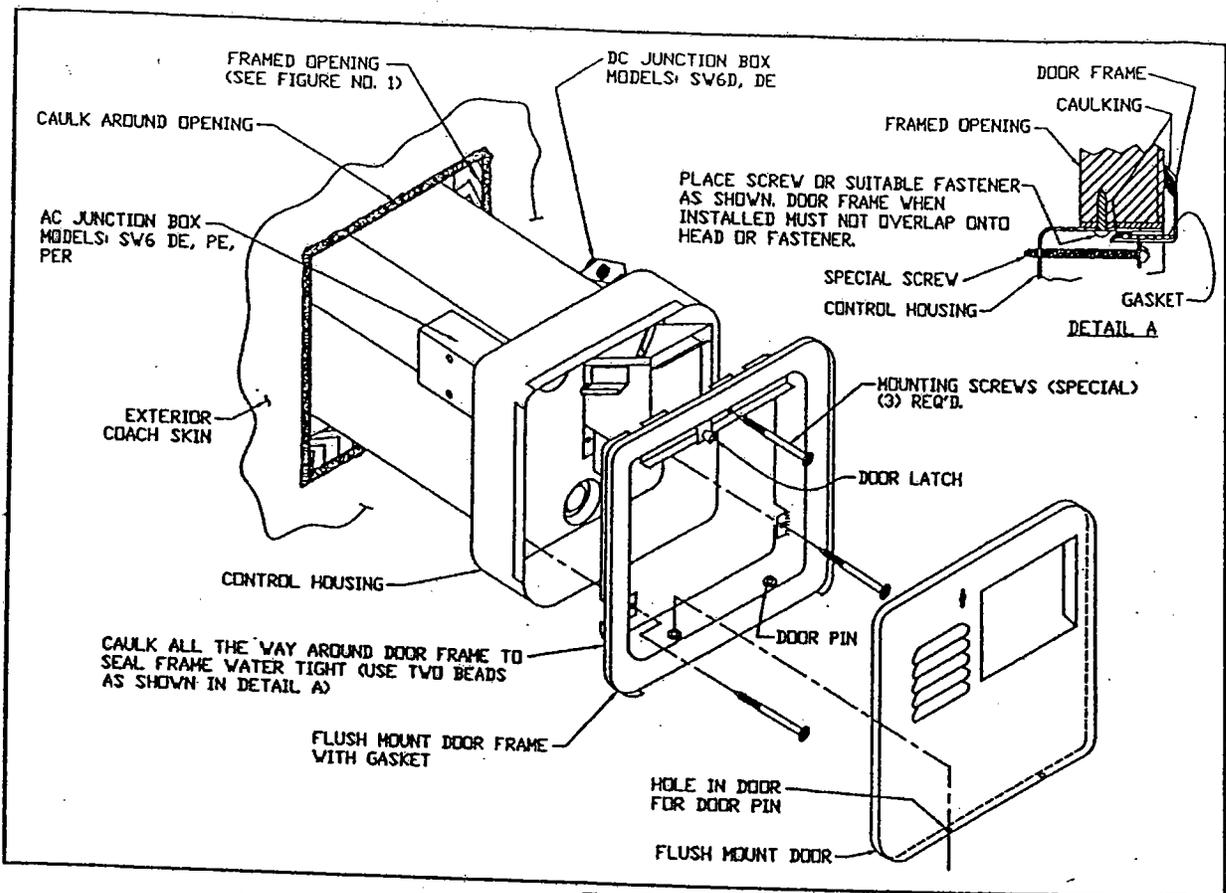

Figure 2
INSTALLATION USING FLUSH MOUNT FRAME & DOOR (See Figure 2 for Illustration)
B. Refer to Figure 2 for location of D.C. junction box on models SW6D and SW6DE. Refer to Figure 5 and 6 for location of D.C. junction box on models SW6DM and SW6DEM.
B. Refer to Figure 2 for location of A.C. junction box on model SW6DE. Refer to Figure 6 for A.C. junction box on model SW6DEM.